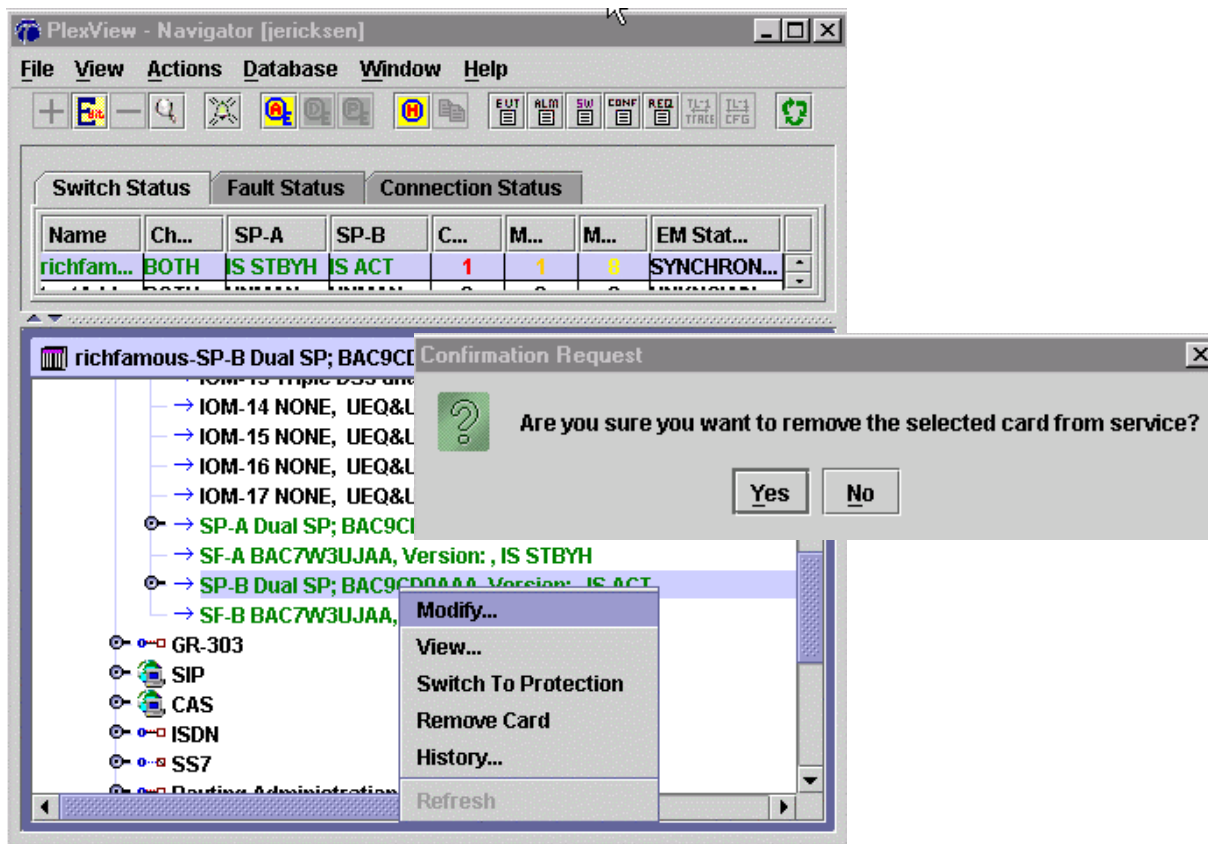

Figure 2. Removing a System Processor
10. Double-click the switch to select it for the main panel and then double-click *Cards*. Right-click the desired SP and then select *Remove Card*. A confirmation screen will appear. Select *Yes* to remove the module. See Figure 2.